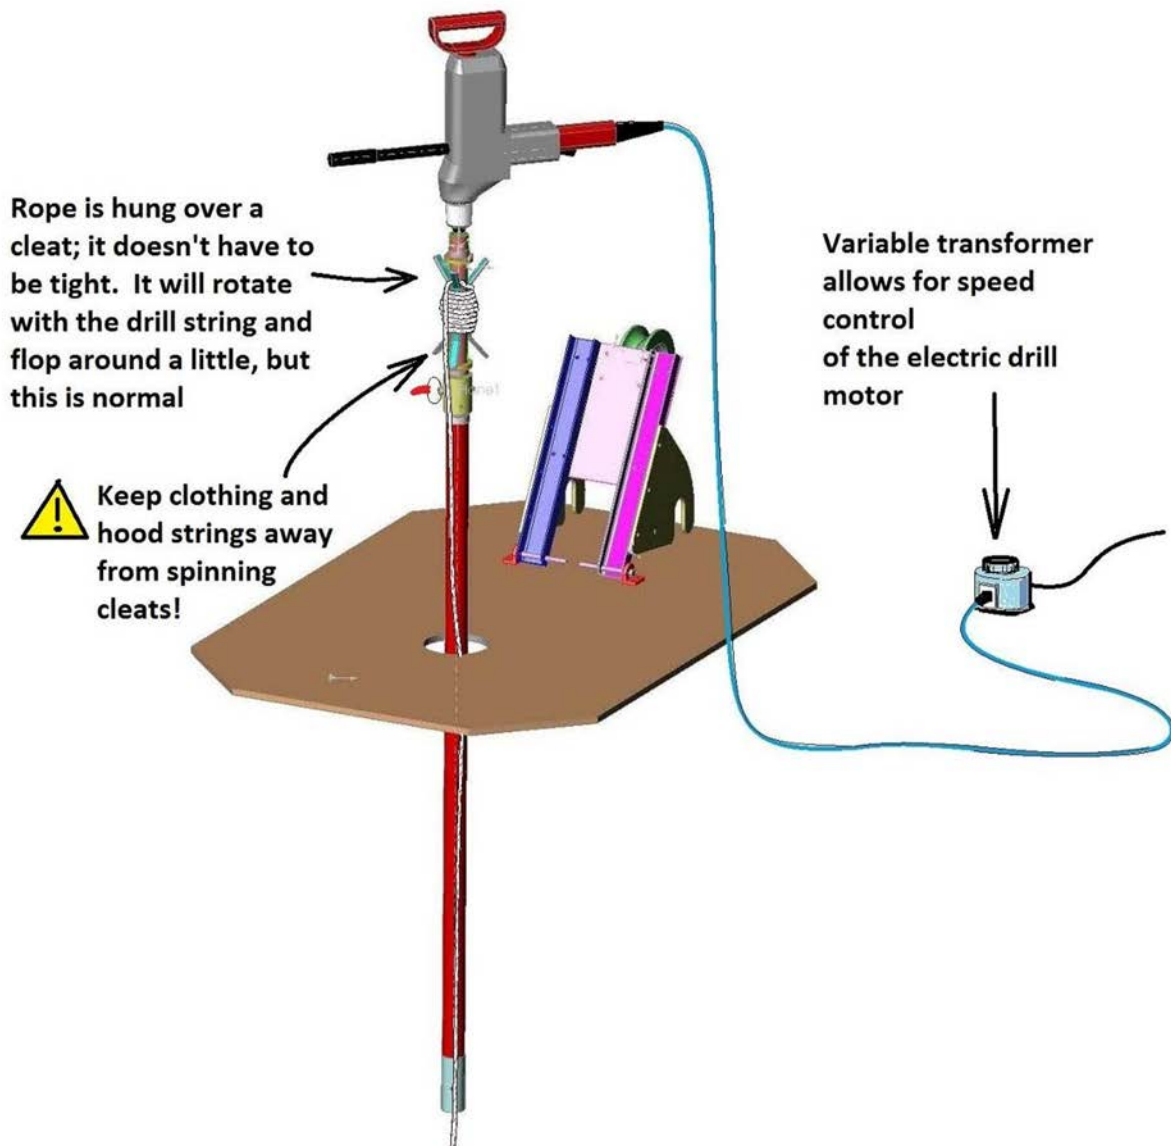

Figure 4: The SideWinder in the drilling configuration, showing the electric drill plugged into the variable transformer.
- 11.4.2 Lifting the drill string using the electric motor/winder means the rope will need to be attached, Figure 4. This is done on the surface with the drill string lying on the snow surface. First, remove the rope pin from its storage place in the winder. Unwind a couple of meters of rope from the cleated winder.